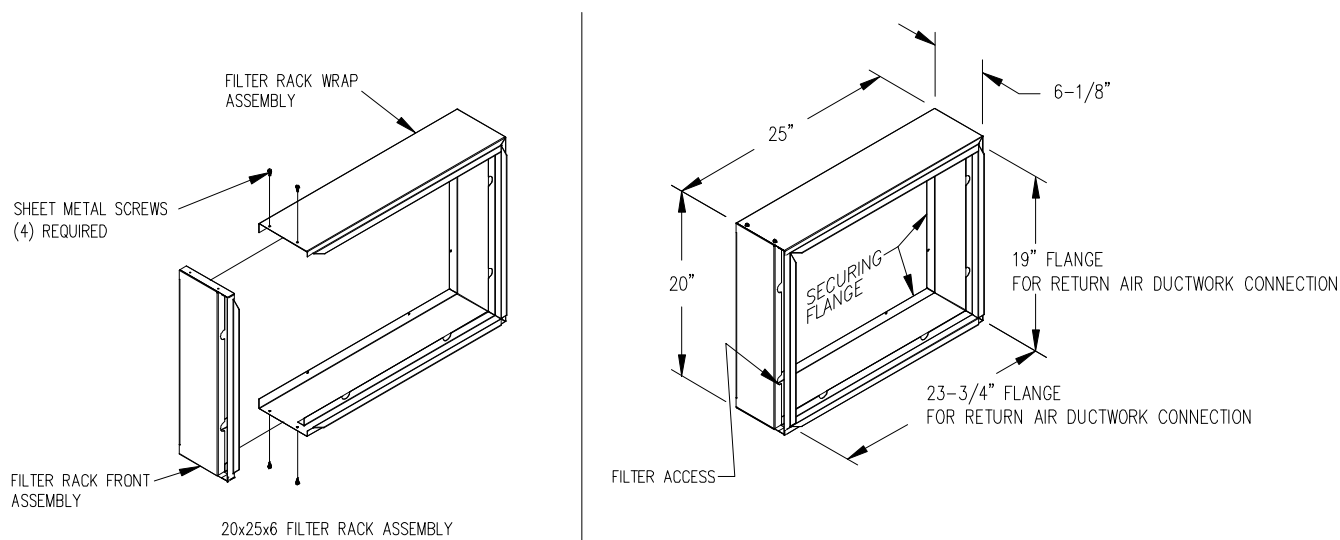

Fig. 9: A typical filter rack and dimensions for the THV1M119A* furnace.
On **highboy** furnaces, it is necessary to cut the return air opening in the side, rear casing or base, depending upon the needs of the specific installation. The filter rack provided with the furnace, refer to Fig. 9, will serve as a template to scribe a mark for the return air opening on the casing. Place the filter rack on a side casing approximately one inch up from the bottom of the furnace and centered from side to side. Place the securing flange against the casing when locating the return air opening. For your convenience, (4) locator knockouts have been placed at the proper locations on both the left and right side casings.
Connect the return air plenum to the filter rack and slide the filter into place. Dimensions for adapting the return air plenum to the filter rack are provided (See Fig. 9).